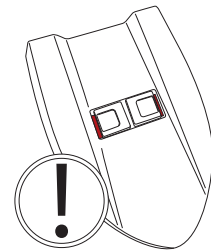

Fig.20
- Apply downward pressure to the lid, sufficient to make certain that the two sliding release catches spring outwards and engage with the top of the dirty water tank (Fig.20).
The lid is correctly installed when the **RED** background in the seats of the two catches can **NOT** be seen (fig. 20).